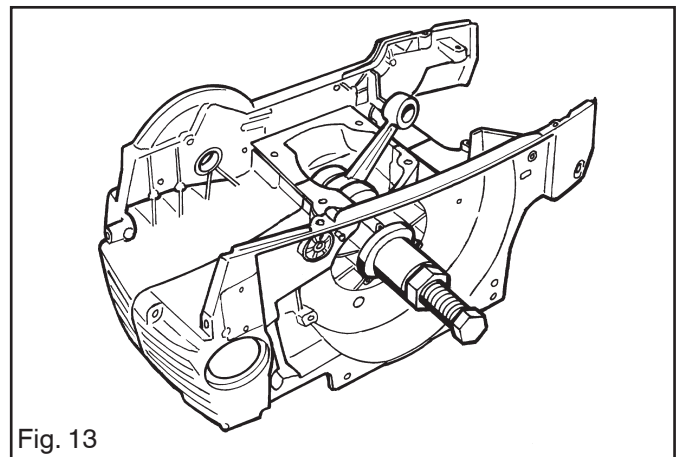

Fig. 13
5. Use tool (Refer to “3 Service tools” on page 8, Pos. 20) and pull on the crankcase half of the fly-wheel side. Pull until the gasket is clamped between the crankcase halves. See fig. 13.